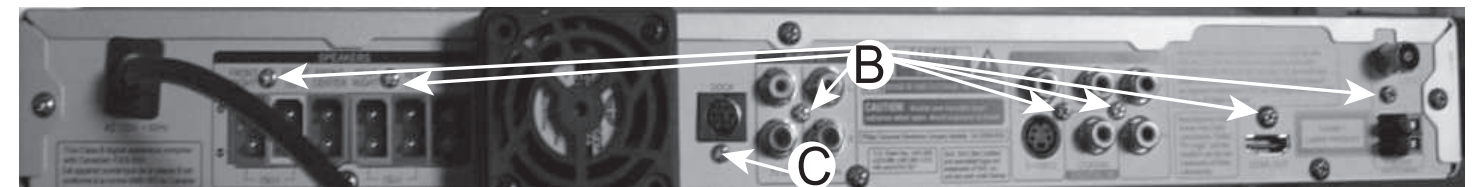

Figure 5
- 1) Loosen 7 screw "B" at the back panel as shown in figure 5.
- 1) Loosen 1 screws "C" at the back pancele as shown in figure5